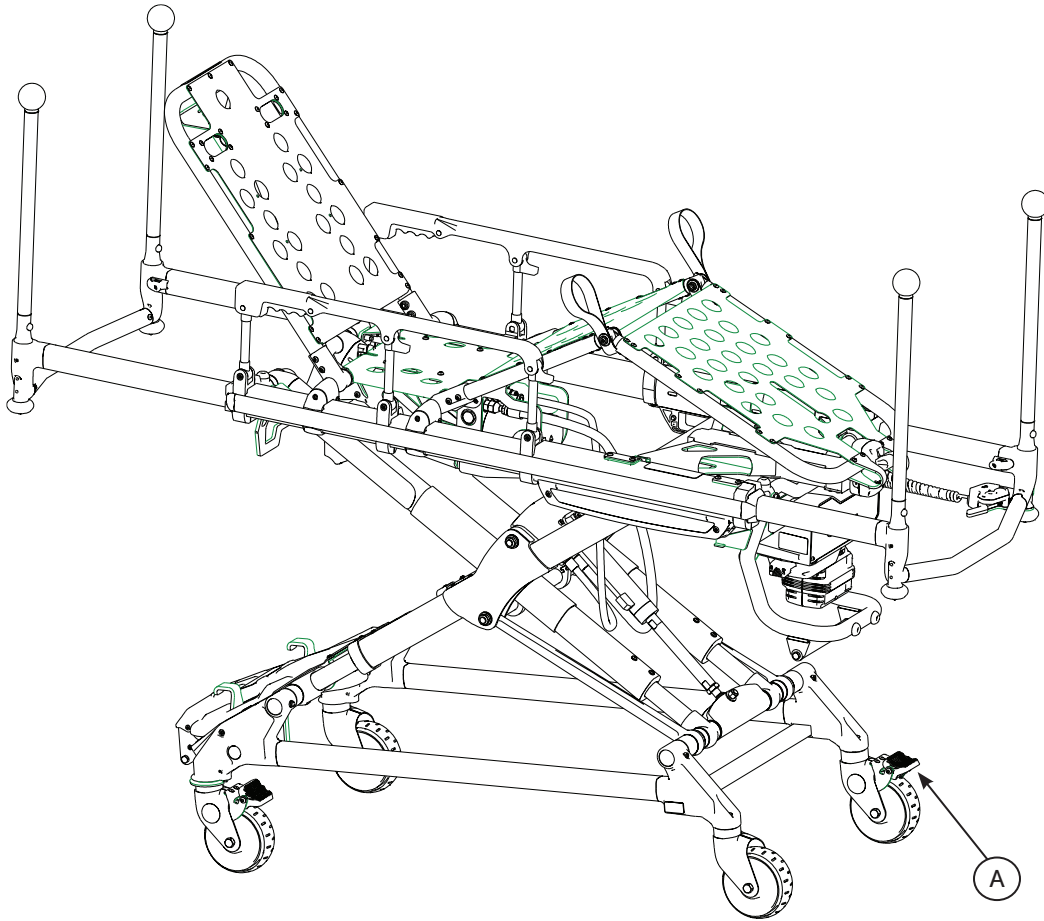

Figure 29 - Wheel Lock
1. To secure the wheel lock(s), press down on the base of the locking pedal (A) until it rests firmly against the surface of the wheel (see Figure 29).